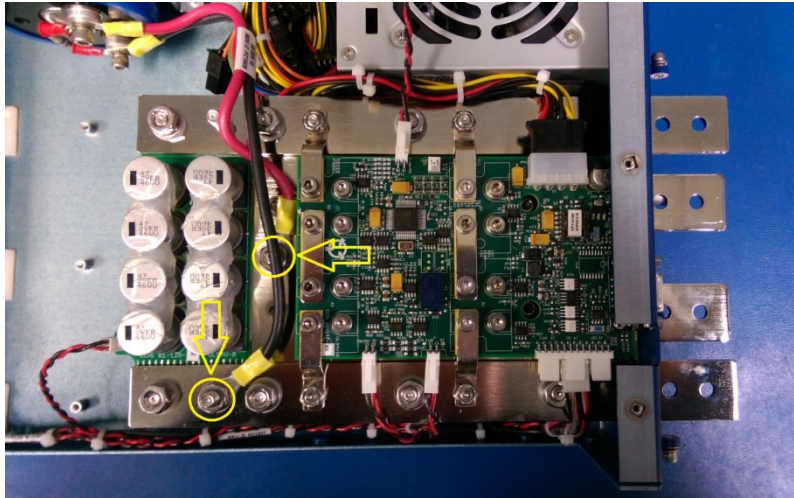

Figure 4: Disconnect 2 wires from the board.
8. Using a 7/16 nut driver, disconnect the red and black wires that come from the capacitor to the board. See Figure 4 below.
16. Reconnect the wires from the capacitor to the board. See Figure 4.